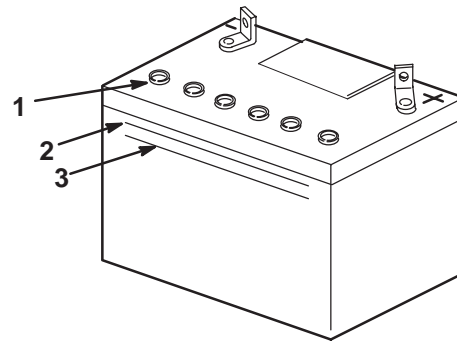

Figure 50
- Look at the side of the battery. The electrolyte must be up to the "UPPER" line (Fig. 50). Do not allow the electrolyte to get below the "LOWER" line (Fig. 50).
- Remove the vent caps from the battery (Fig. 50).
- Slowly pour distilled water into each battery cell until the level is up to the "UPPER" line (Fig. 50) on the battery case.
- Wait five to ten minutes after filling the battery cells. Add distilled water, if necessary, until the electrolyte level is up to the "UPPER" line (Fig. 50) on the battery case.